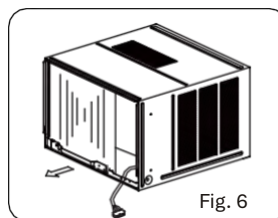

Fig. 6
2. Grasp the handle on the frame and carefully slide the air conditioner out of the cabinet (see Fig. 6).
3. Grasp the handle on the frame and carefully slide the air conditioner out of the cabinet (see Fig. 6).